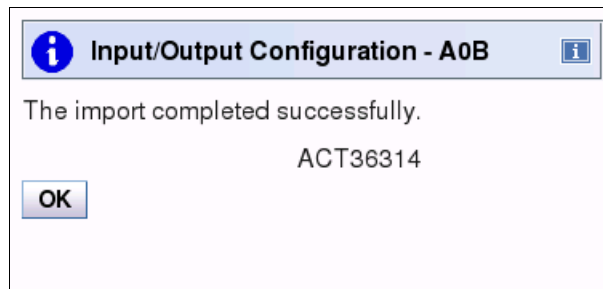

Figure 8-122 HMC - SAIOCP: source file imported
14. The source file is now read from the USB drive. Click **OK** (Figure 8-122).